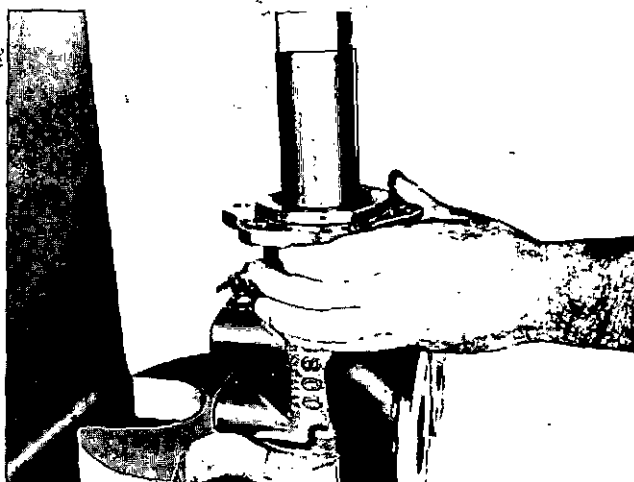

Fig. 8-57 (N20809). Install The Oil Seal Into The Housing.
2. Install the key (10) into the shaft.
3. Push the oil seal (11) into the drive side of the housing as shown in Fig. 8-57.